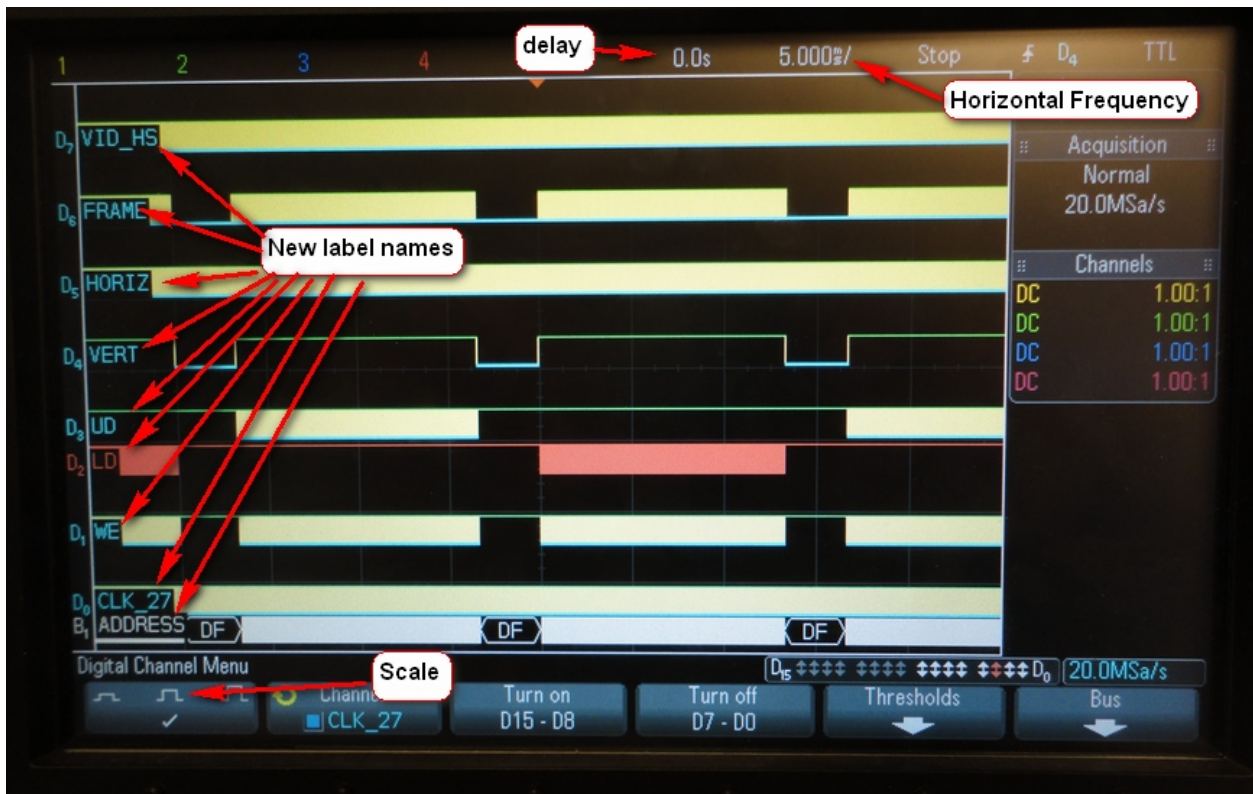

Figure 33 -newly set up setting for labels, delay and frequency
- The result should look like “New label names” in figure 33.
- Set delay to **0.0s**. See figure 33.
- Set **horizontal** frequency to **5.000 m/s**. See figure 33.
- Set **scale** to medium. See figure 33.